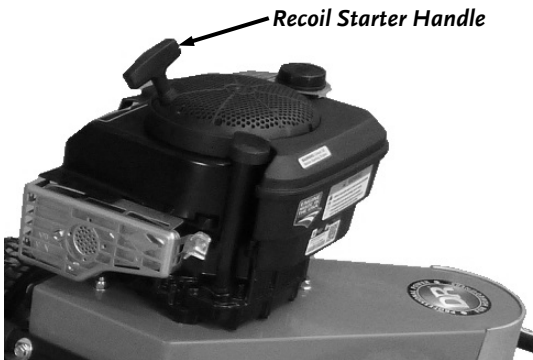

Figure 26
3. Grasp the Recoil Starter Handle and slowly pull until you feel resistance (**Figure 26**). Let the cord retract a little bit and then pull the cord rapidly to start the Engine. One or two pulls usually starts the DR 6.25 TOW-BEHIND TRIMMER/MOWER.